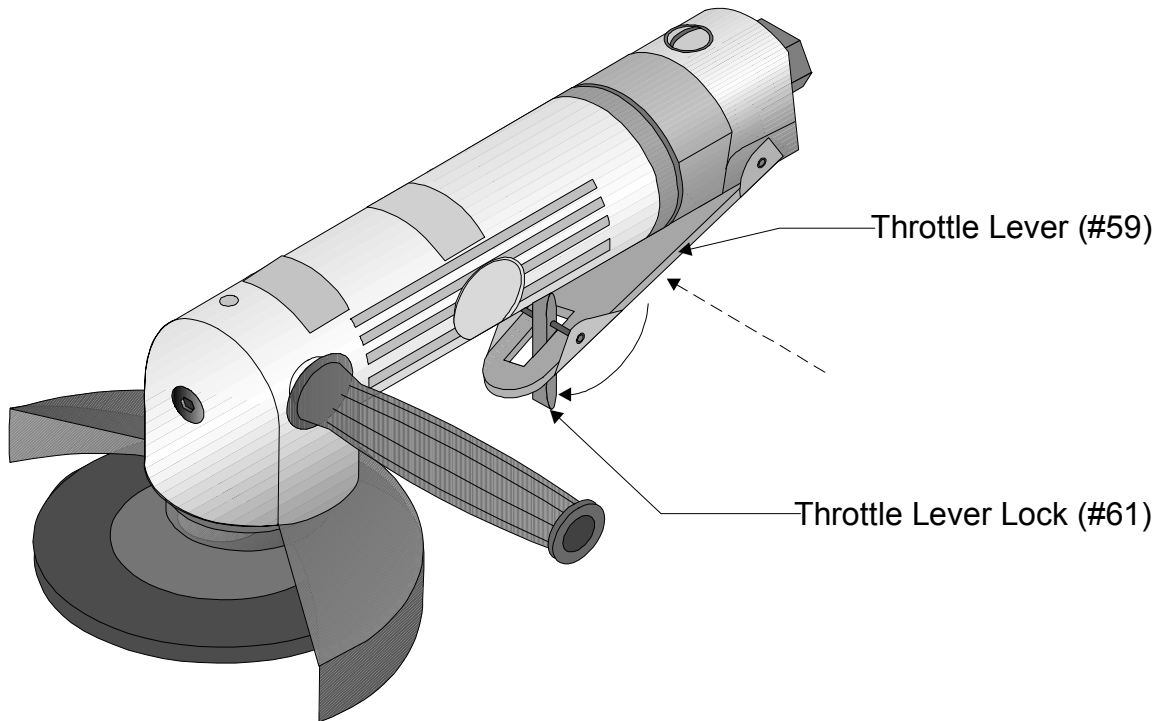

Figure 6 — Operating the Angle Grinder
Step 6: To operate the Angle Grinder, press the THROTTLE LEVER LOCK (#61) forward while depressing the THROTTLE LEVER (#59) as shown in Figure 6.